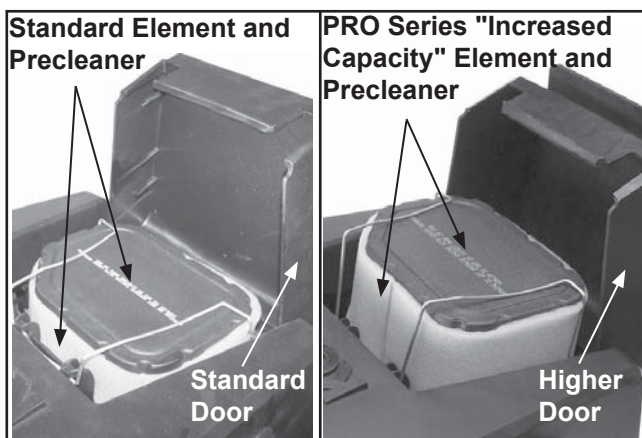

Figure 4-1. Air Cleaner Element Location.
Air cleaner systems used on these engines will be either the standard size or PRO Series increased capacity (slightly taller) design. Each system uses a replaceable, high-density paper air cleaner element. Some are also equipped with an oiled-foam precleaner, which surrounds the paper element. See Figures 4-1 and 4-2.
To service the precleaner, see Figures 4-1 and 4-2, and perform the following steps:
Clean the paper element **annually or every 25 hours**, or replace if necessary. Replace the paper element **annually or every 100 hours** of operation (more often under extremely dusty or dirty conditions). See Figure 4-1, and follow these steps:
1. Open the door on the blower housing to access the air cleaner element. See Figures 4-1 and 4-2.